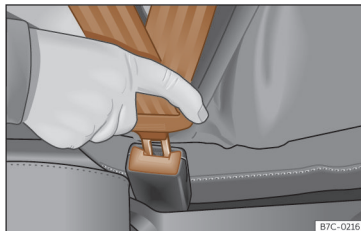

Fig. 9 Insert the latch plate of the seat belt into the buckle.
- Engage the latch plate in the buckle of the corresponding seat»» Fig. 9.